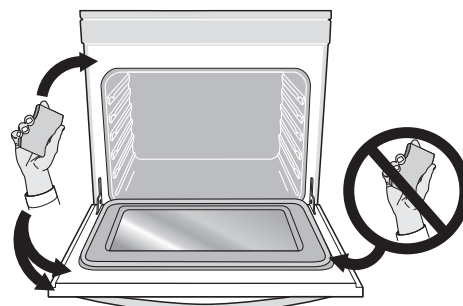

Figure 21: Areas of oven door to clean with caution
- Do not clean the oven door gasket (Figure 21). Do not use any cleaning materials on the oven door gasket. Doing so may damage the gasket. The woven material of the oven door is essential for a good seal. Care should be taken not to rub, damage or remove the door gasket.